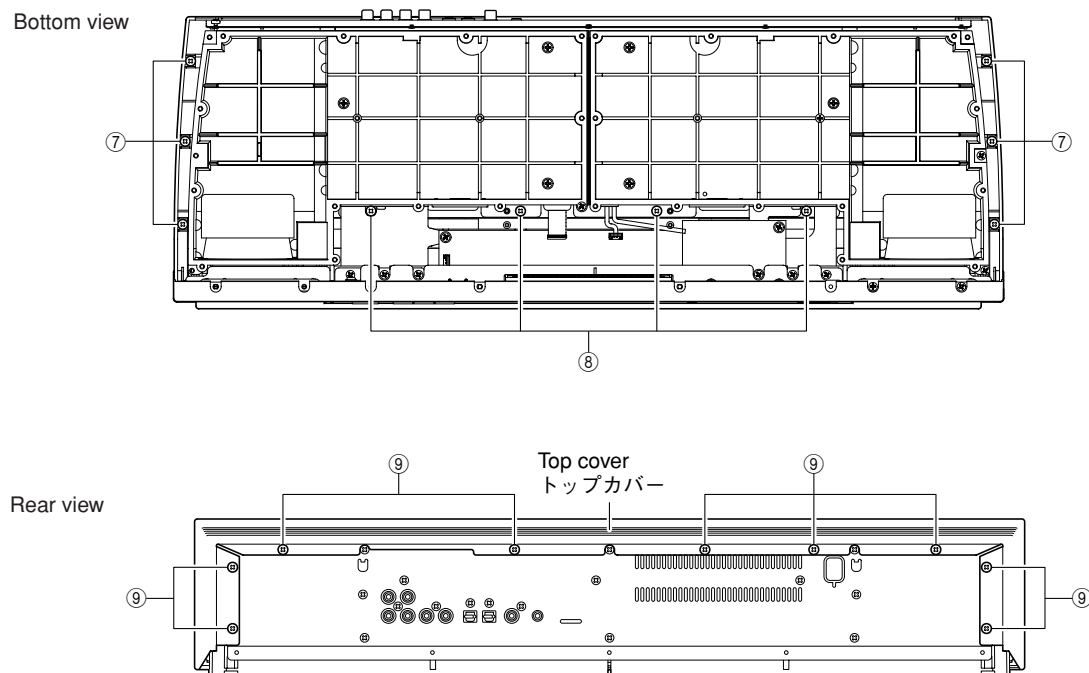

Fig. 9
- Remove 6 screws (⑦), 4 screws (⑧) and 9 screws (⑨). (Fig. 9)
- ⑦のネジ6本、⑧のネジ4本、⑨のネジ9本を外します。(Fig. 9)